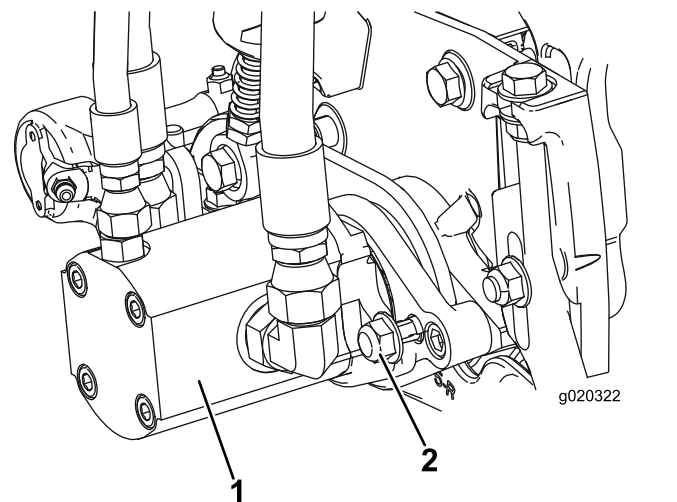

Figure 13
3. Install the motor by rotating it clockwise so that the motor flanges clear the locknuts (Figure 13).